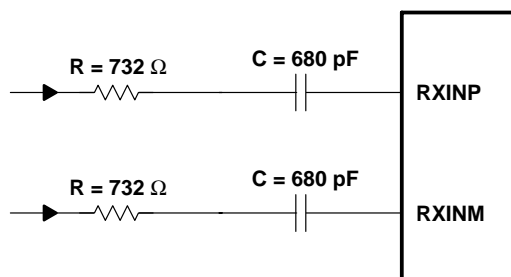

Figure 1. External Components for RXINP and RXINM
External components are required to implement CPGA function. Suggested components and connection are shown in the Figure 1.
The configuration of Figure 1 gives the following setting for CPGA:  $-9\text{dB}$  to  $9\text{dB}$  in 6 dB/steps and  $9\text{ dB}$  to  $30\text{ dB}$  in 3 dB/steps. The CPGA gain range is controlled by external resistors (732  $\Omega$  shown in Figure 1). The cut-off frequency of the HPF is controlled by external resistors (R) and capacitors (C). To keep the cutoff frequency of the first HPF unchanged,  $R \times C$  need to be constant.